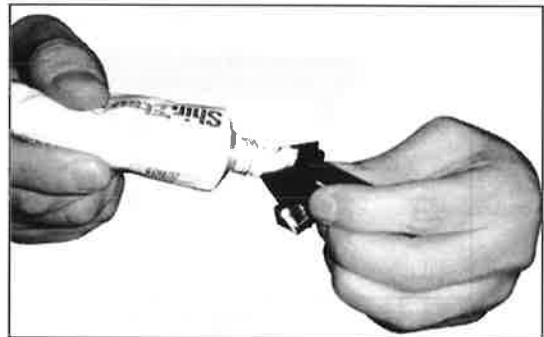

Fig. 3-8
- (2) Before mounting the sensor unit into the frame, sufficiently apply acoustic coupler (or silicone-free grease*) over the entire transmission surface of the sensor unit, taking care not to introduce bubbles. (Fig. 3-8)